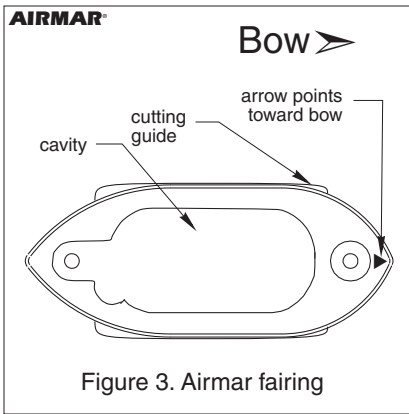

Figure 3. Airmar fairing
Made of a high impact polymer with an integrated cutting guide, the Airmar fairing is easy to cut with a band saw and shape with hand tools (see Figure 3). The fairing also has a center cavity for the stuffing tube and cable service loop.
1. The stuffing tube will be centered in the cavity of the fairing (see Figures 3, 4 & 6). Measure the deadrise angle of the hull at the stuffing tube using an angle finder or a digital level (see Figure 1).
Caution: The arrow will be pointing forward toward the bow after the fairing is installed (see Figure 3).
1. Locate the hole for the forward threaded rod (see Figures 3 & 6). Hold the fairing against the hull, *being sure the arrow/blunt end points forward toward the bow* and the stuffing tube is centered inside the cavity. **With the fairing parallel to the centerline of the boat (keel)**, use the *forward* hole in the fairing as a guide. Drill the 11 mm or 7/16" diameter hole through the hull for the threaded rod. *Do not drill the second hole at this time.*